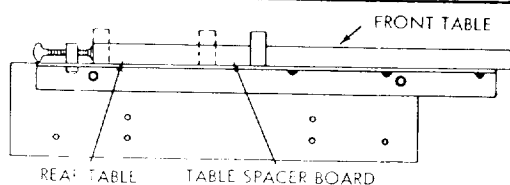

Figure 37
6. There are three positions in which the fence can be located. (See figure 37.)